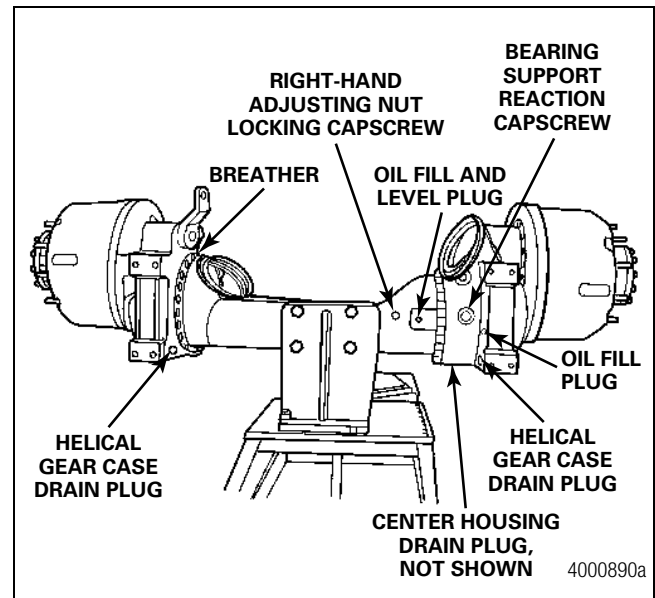

Figure 2.32
2. Place a drain pan under the axle. Remove and drain the oil from the two drain plugs on the lower side of the helical gear housing and the plug below the carrier in the center housing. Install the drain plugs and tighten them to 35 lb-ft (47 N•m). Figure 2.32.
3. Remove the fill plug from the helical gear case that is closest to the differential. Figure 2.32.
5. Remove the fill plug from the side of the axle housing bowl cover. Figure 2.32.